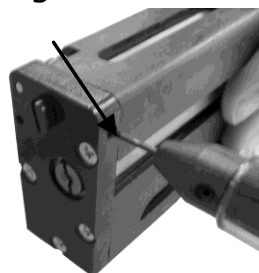
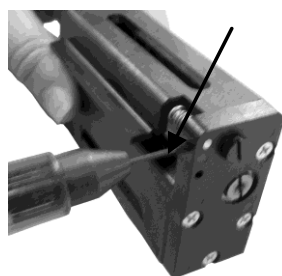

Figure 19b. Adjusting Right Set Screw
Figure 19c. Adjusting Left Set Screw
5. To increase the shear, loosen the right setscrew $\frac{1}{4}$ turn (see Fig. 19b) and tighten the left setscrew (see Fig. 19c).